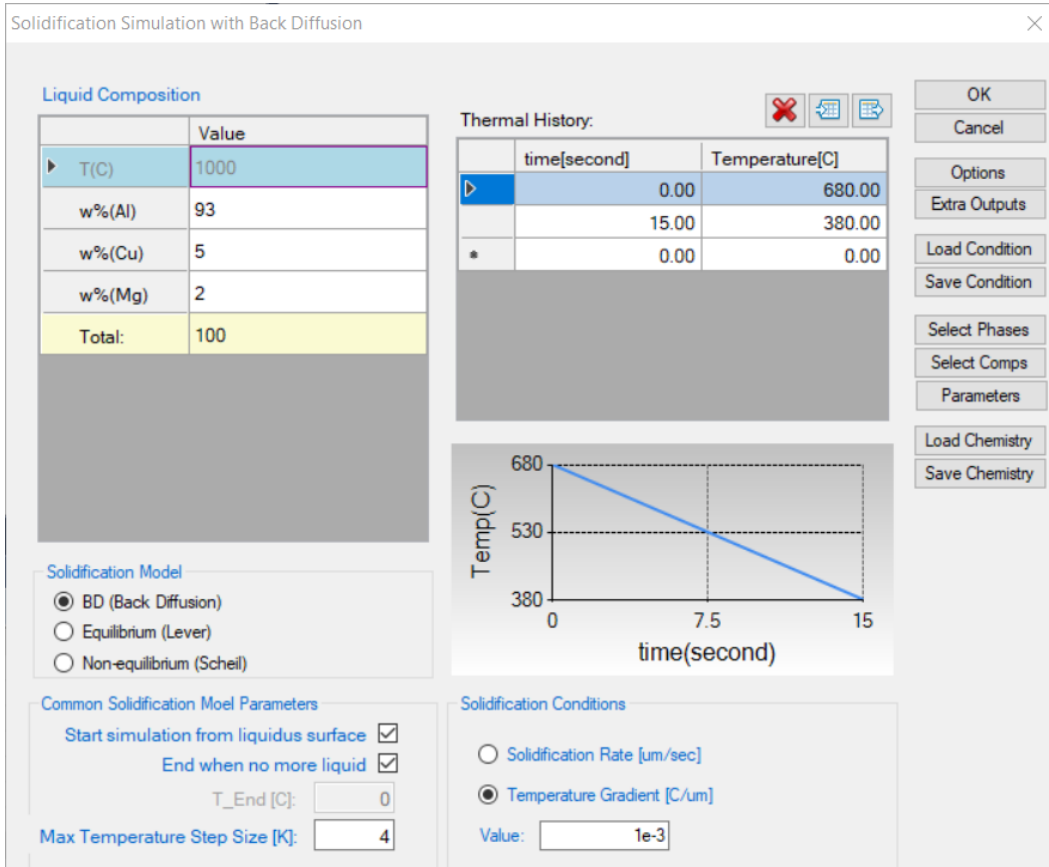
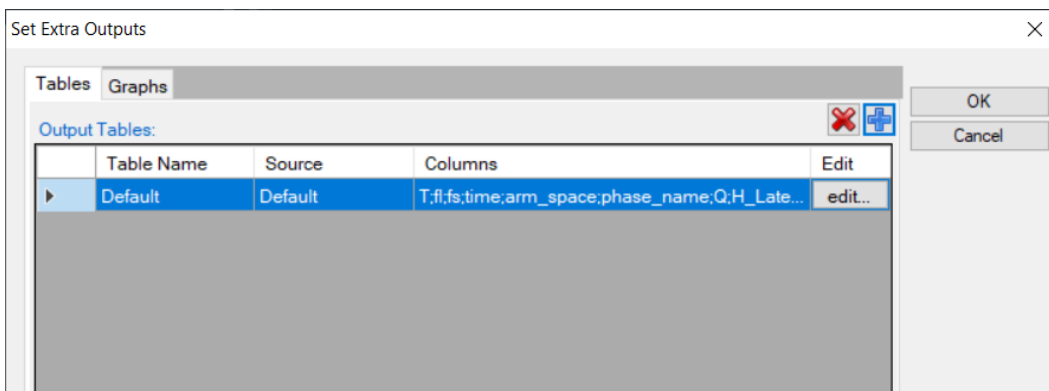
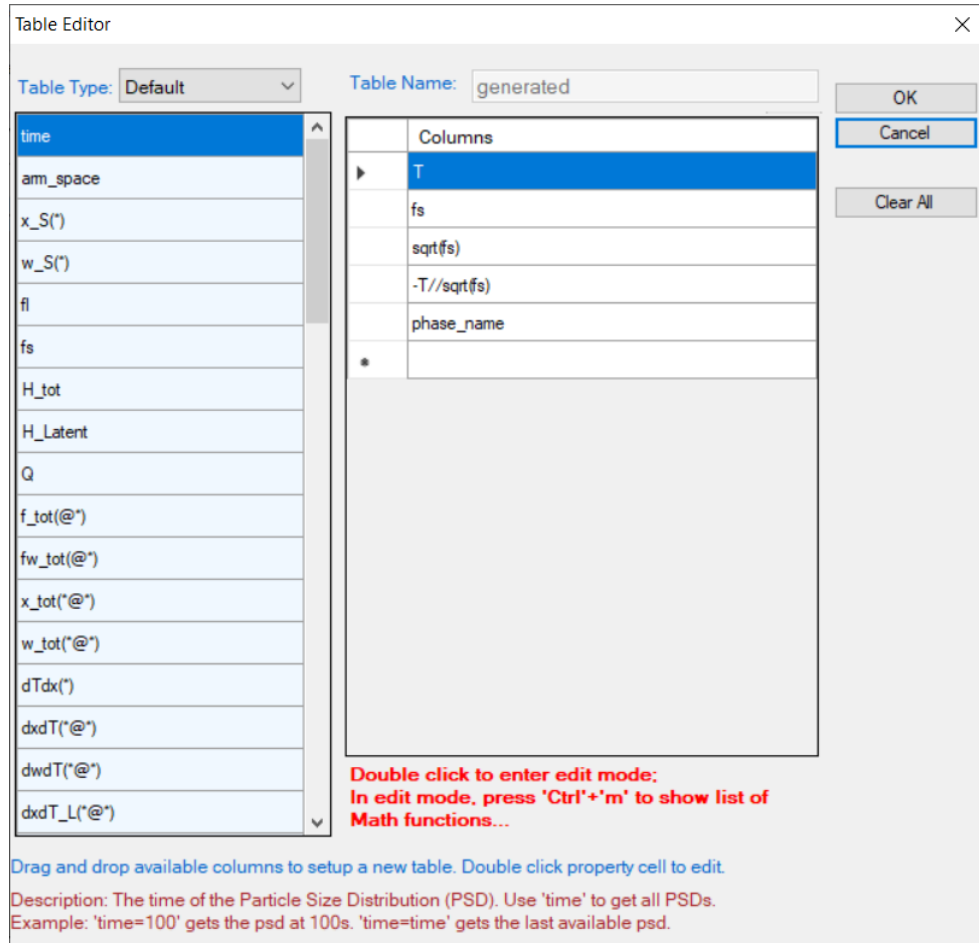
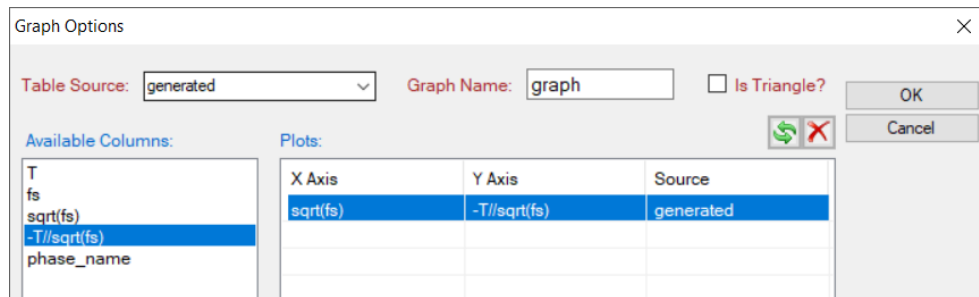

Figure 5.2.1: Set up solidification conditions
Figure 5.2.2: Extra Output interface
Figure 5.2.3: Define properties in the extra output table.
Figure 5.2.4: Define the axes of the extra graph.
- Set Solidification simulation conditions as shown in Figure 5.2.1; The alloy composition is Al-5wt.%Cu-2wt.%Mg. The cooling rate is 20 K/s is setting in Thermal History solidifying from 680 °C to 380 °C with 15 second. Temperature gradient is set as 10^{-3} °C/μm. Please pay attention to the units of the time and length when set conditions.
- Set “Extra Outputs table”. Click the “Extra Outputs” in Figure 5.2.1, a new interface as shown in Figure 5.2.2 will appear. Click the blue “+” symbol in Figure 5.2.2 to pop out the Table Editor as shown in Figure 5.2.3. From this Table Editor, users can specify and type in properties to output, such as $\sqrt{f_s}$, $-T/\sqrt{f_s}$ in this example. $-T/\sqrt{f_s}$ refers to $-dT/d(f_s)^{1/2}$, as the syntax // means derivative in Pandat software. Note that with this setting, a “generated” table will be created in addition to the Default table.
- Set “Extra Outputs graph”. Click the icon “Graph” in “Set extra output” interface as shown in Figure 5.2.2, then click the blue “+” symbol to add extra Graph. An interface as shown in Figure 5.2.4 will appear. Select the “generated” table generated by the previous step. Drag $\sqrt{f_s}$ from the left column to X axis